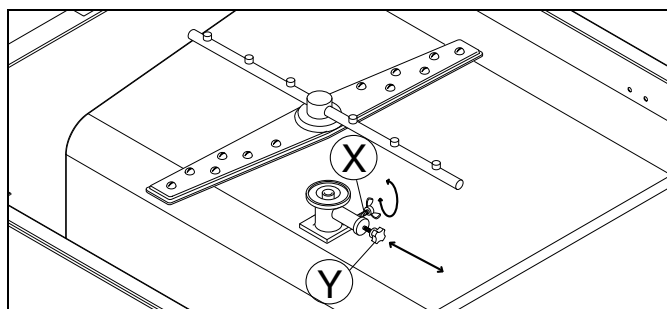

Figure 16
- unscrew the wing nut "X" (Figure 16);
- push the relief valve "Y" (Figure 16) inwards to reduce pressure in the lower wash arm and increase it in the upper arm, so that the pots and pans remain in position;
- retighten the wing nut "X" (Figure 16).
- take out the relief valve "Y" (Figure 16);